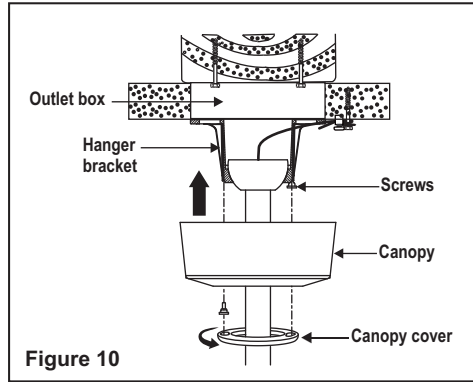

Figure 10
**Step 2.** Slide the canopy up to mounting bracket and place the key hole on the canopy over the screw on the mounting bracket, turn canopy until it locks in place at the narrow section of the key holes. (Fig. 10)